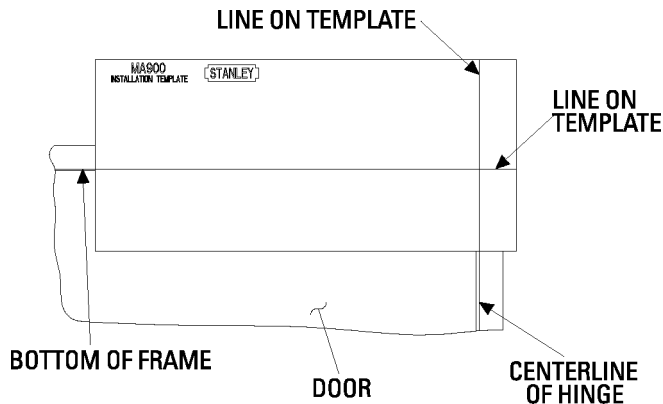

Fig. 10
3. Position the template (see Fig. 10).